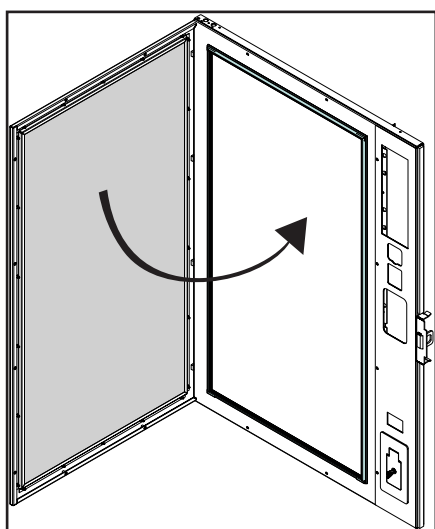

Figure 29
1. Close the impact protection (Fig. 29).